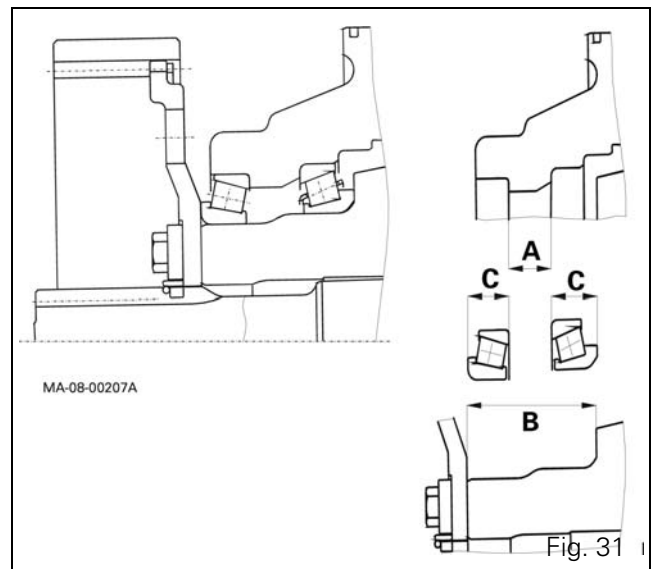

Fig. 31
- 30.** The special "Set Right" operation, which consists of shimming the bearings, does not require any specific preload or setting. The required values should always be checked before installing new parts (Fig. 31).